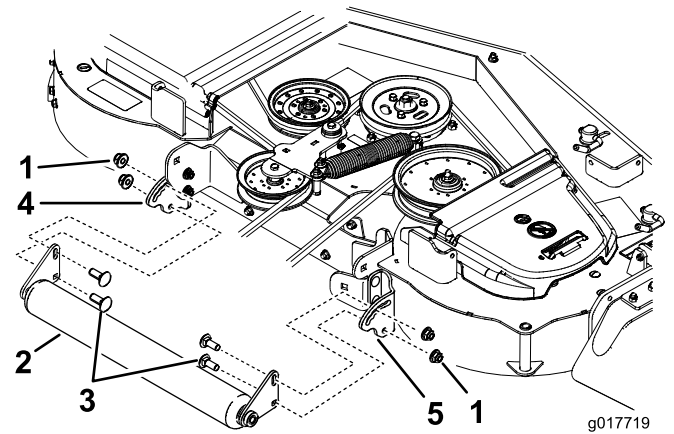

Figure 3
4. Install the roller plates to the brackets with 4 carriage bolts (3/8 x 1 inch) and 4 flange nuts (3/8 inch) (Figure 3).